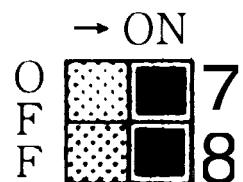

Fig. 5
12) Set the Infinity to 'Forced High' combustion by setting both No. 7 and No. 8 dipswitches of the top (SW1) set to 'ON'. (fig 5) Ensure maximum water flow.